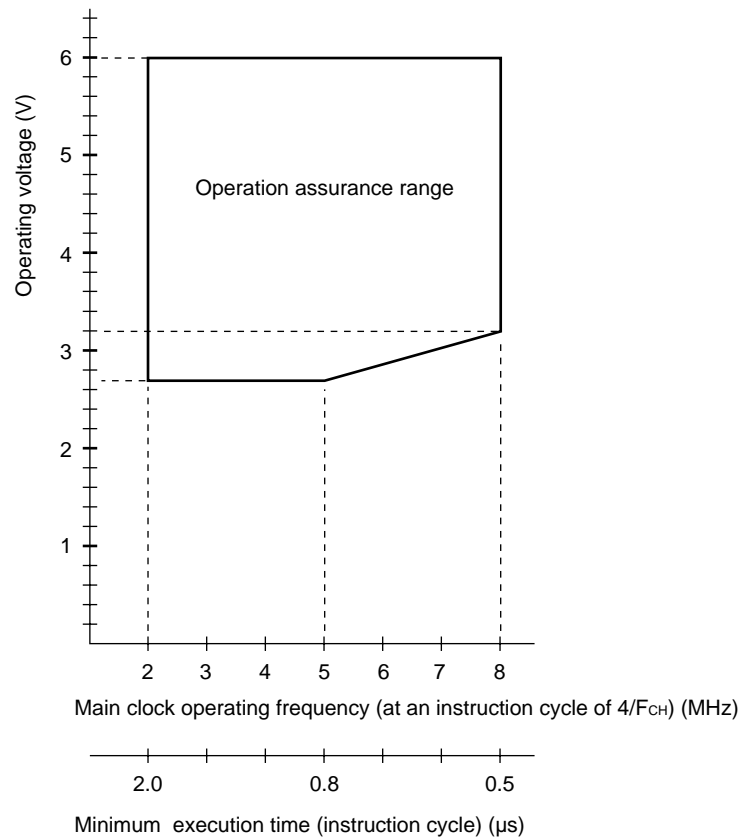

Figure 1 Operating Voltage vs. Main Clock Operating Frequency
* : These values vary with the operating frequency and analog assurance range. See Figure 1 and "5. A/D Converter Electrical Characteristics."
Figure 1 indicates the operating frequency of the external oscillator at an instruction cycle of $4/F_{CH}$.